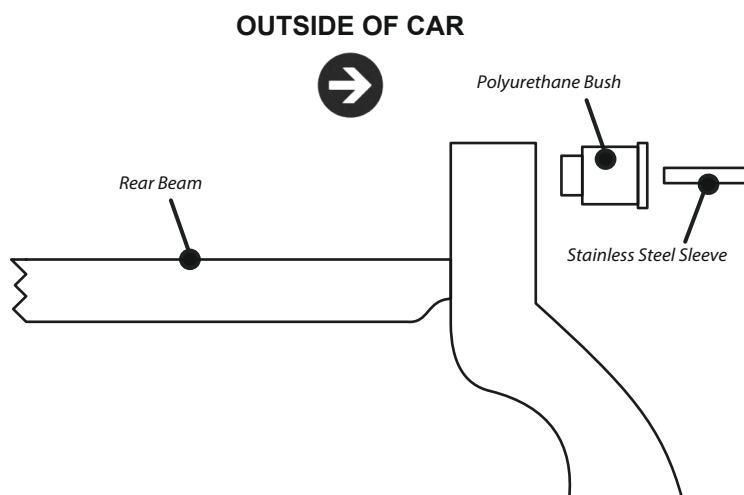

Figure 1 - how the polyurethane bush fits in the rear beam (top view)
3. Insert the polyurethane bush into the rear beam, as shown in Figure 1, with the larger diameter facing towards the outside of the car.